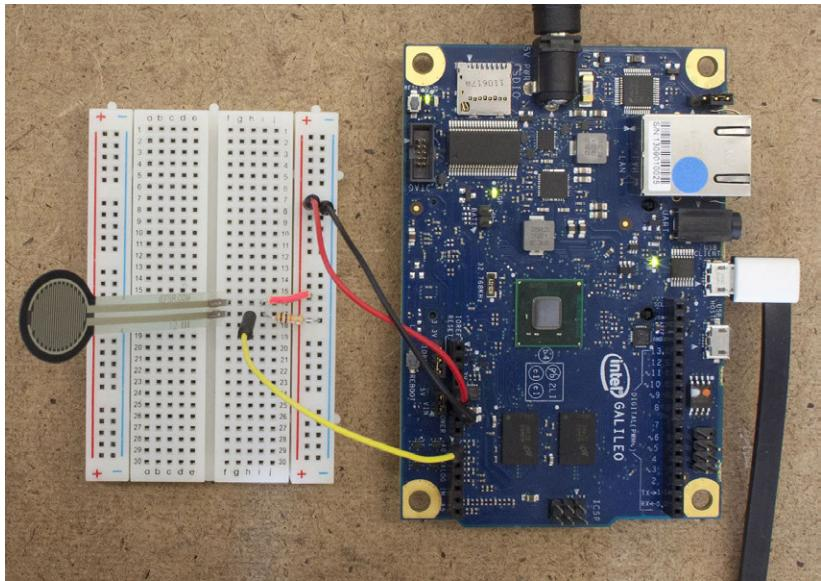
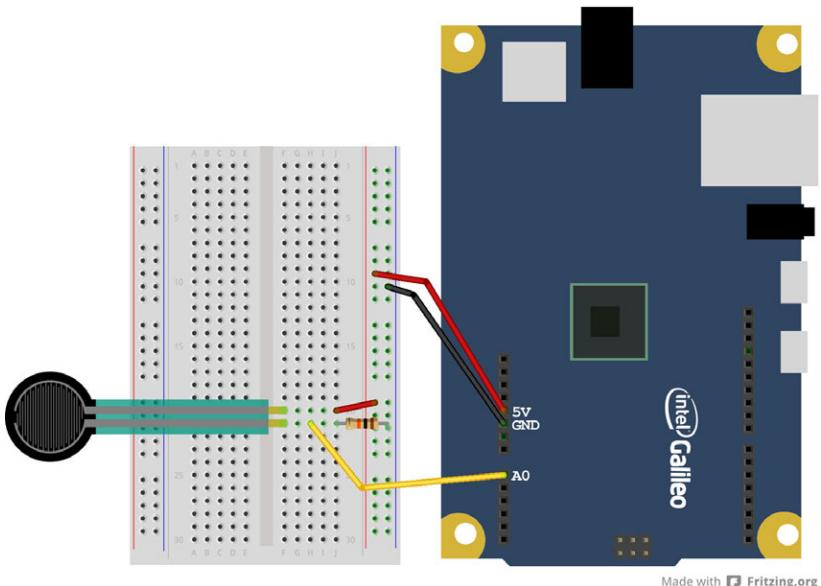

Figure 4-12. How to connect a force sensitive resistor to Galileo
Figure 4-13. How to connect a force sensitive resistor to Galileo
4. Connect the other side of the FSR to 5 volts from Galileo. Your circuit should look like Figure 4-12 or Figure 4-13.